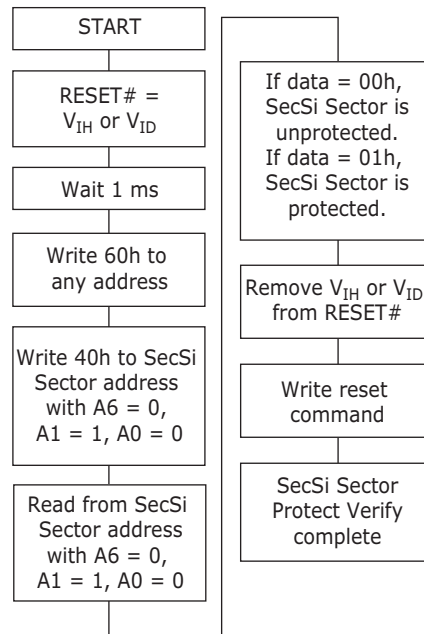

Figure 3. SecSi Sector Protect Verify
- To verify the protect/unprotect status of the SecSi Sector, follow the algorithm shown in Figure 3.